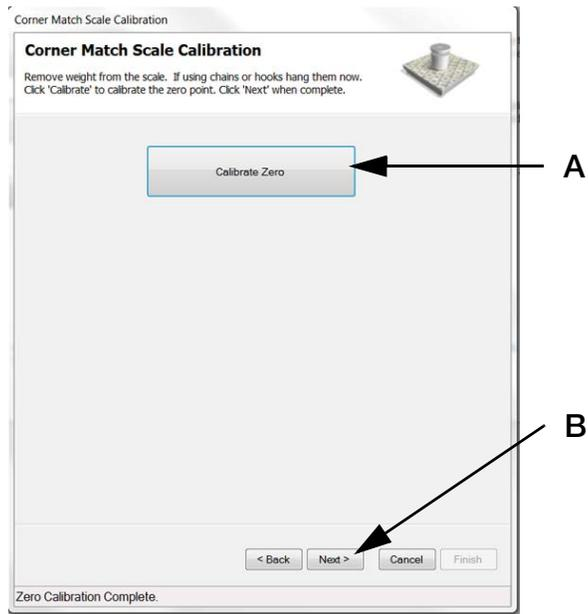

Figure 5-13. Calibrate Zero
- Press **Calibrate Zero** (Figure 5-13 A), then press **Next** (Figure 5-13 B).